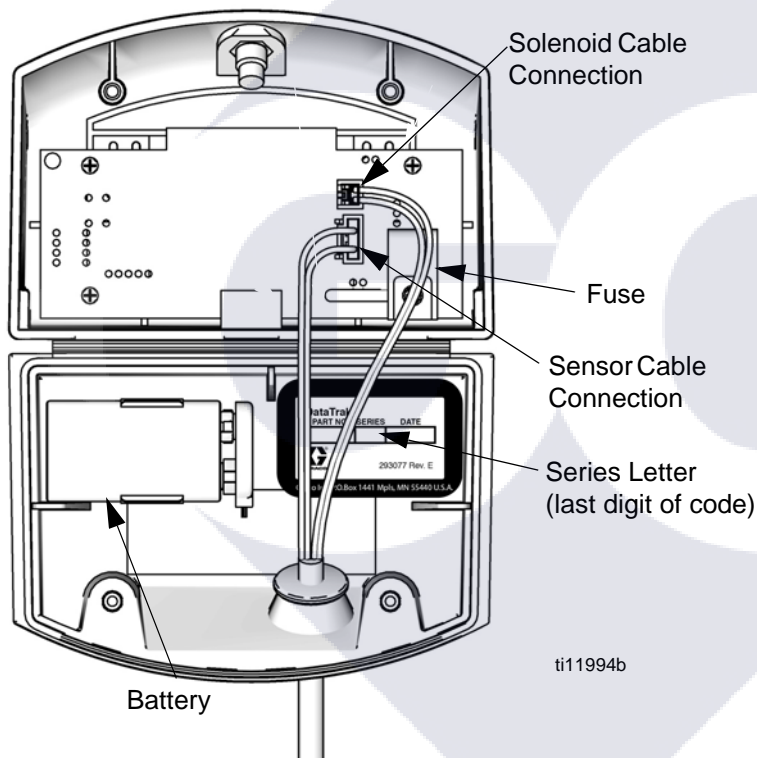

Fig. 4. DataTrak Battery and Fuse Location
4. Disconnect the used battery and replace with an approved battery. See Fig. 4.
* Fig. 4 shows where to find the Series letter.